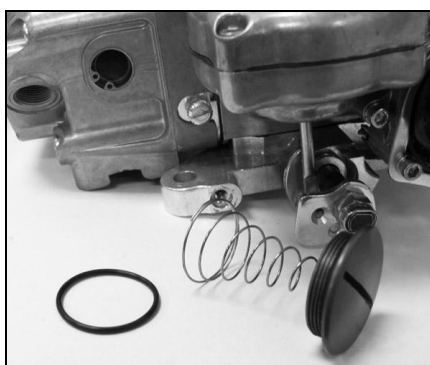

Figure 21
2. Please note the O-ring that seals the disk to the pod top (Fig. 21).